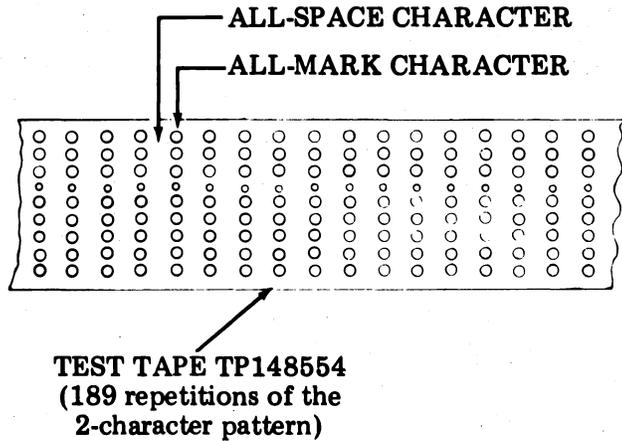

Figure 10 - Test Tape Pattern for Receiver 5B
- (c) To transmit an alternating all-mark, all-space test pattern for at least 30 seconds, after the original all-space signal. See Figure 10 for proper test tape.